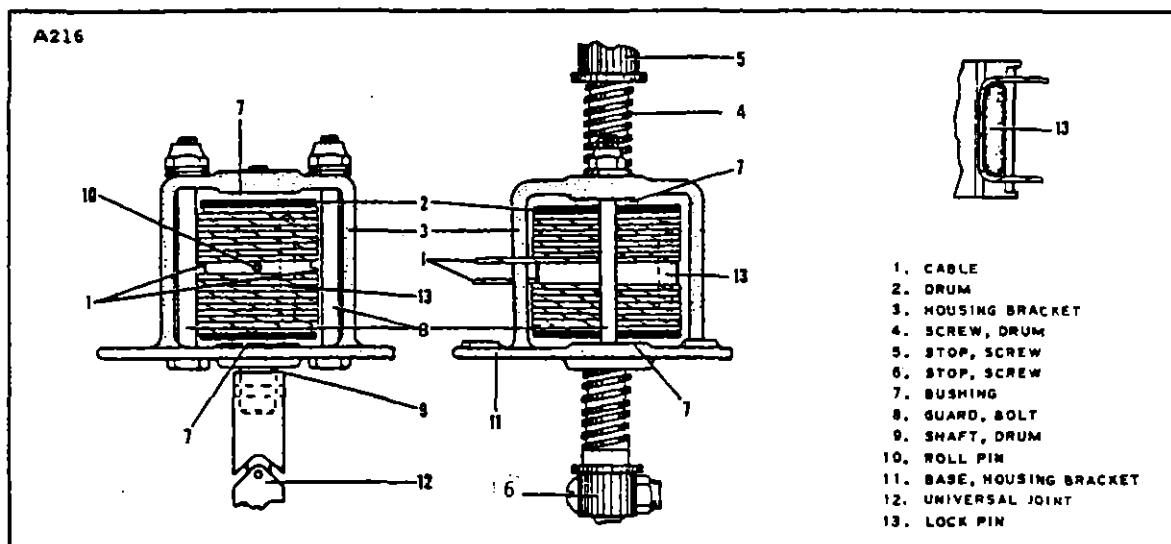

Figure 5-14. Trim Screw Assembly
5-47. WRAPPING TRIM DRUM. (Refer to Figure 5-14.) All trim drums are wrapped basically by the same procedure and must be removed from the airplane.
d. Remove the drum (2) from the housing.
e. Unwrap the trim cable and remove the cable and lock pin (13) from the drum. (If one end of the cable has been marked to facilitate hook-up of the cable ends, note this location in relation to the drum when installing a new cable on the drum.)
f. Check the condition of the bushings (7) in the housing for excess wear.
k. Insert the drum in the housing bracket, position the drum and route the cables from the assembly as shown in Figure 5-14.